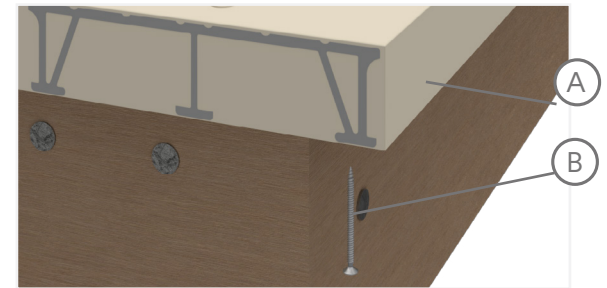

Fig. 16
2. Using stainless steel #8 screws and working from the underside of the DockDeck board, fasten the C Channel to the board (Fig. 16)